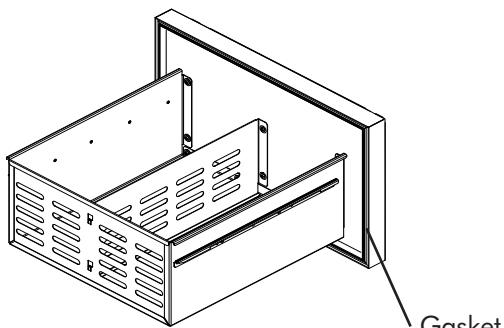

Figure 8
2. Remove the gasket from the drawer front. Do this by pulling the gasket out of the channel that holds it to the drawer front. This will expose the clearance holes for mounting the overlay panel. (See Figure 8).